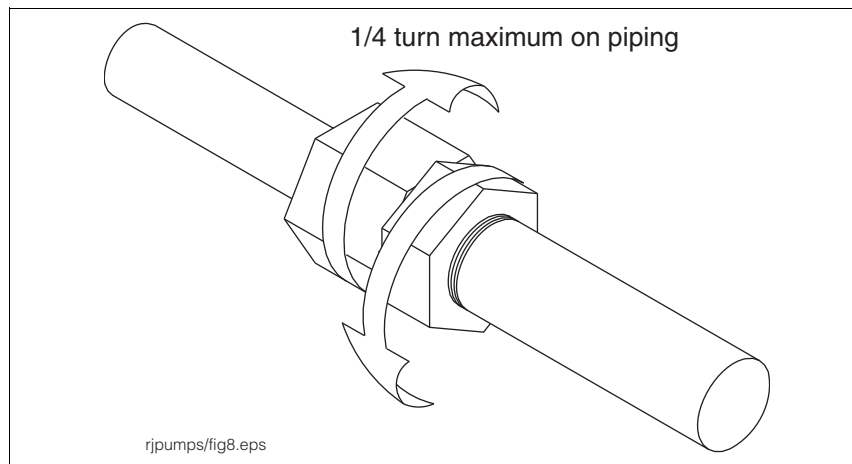

Figure 10. Loosening Locking Nut
4. Loosen the clinch assembly starting by unscrewing the set screw in the side of locking nut, then backing off the locking nut (see Figure 10).